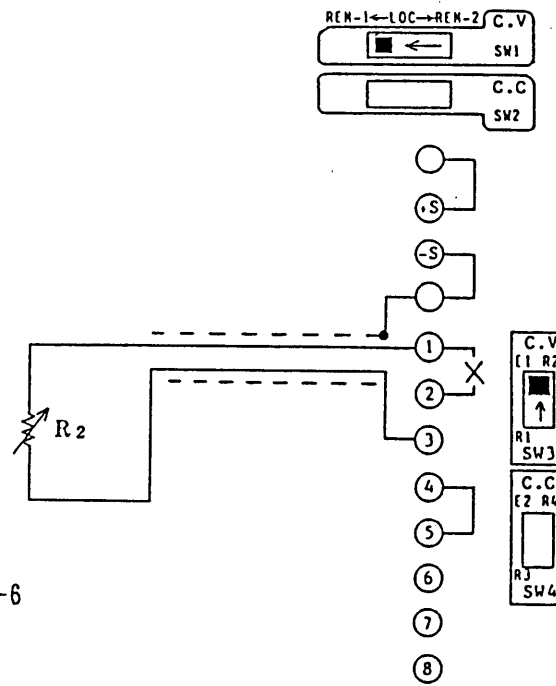

Figure 4-6
- (1) Turn off the POWER switch.
- (2) Throw the SW1 switch on the rear panel to REM-1.
- (3) Throw the SW3 switch on the rear panel to R2.
- (4) Disconnect the jumper from between terminals ① and ② of the rear terminal block.
- (5) Connect a control resistor (R2) between terminals ① and ③.
- (6) Regarding the switches for which no settings are specified in Figure 4-6, set them to the standard states as shown in Figure 2-23 (See Section 2.4.) or to appropriate states for respective modes (See Sections 4.1 through 4.11.).